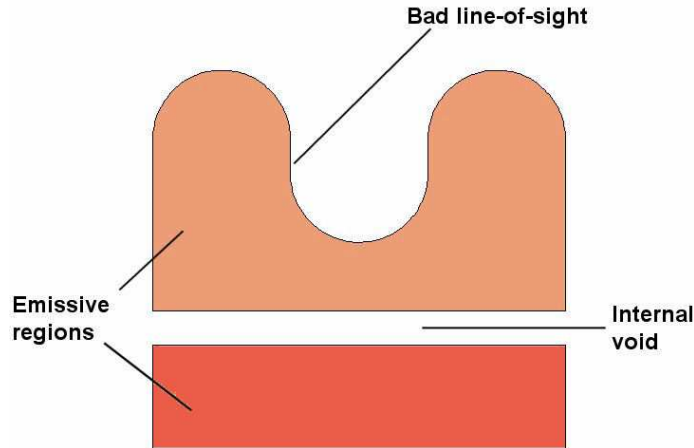

Figure 23: System that violates the assumptions of the **TDiff** radiation model.
- All radiating facets have a clear line-of-sight to infinity. In other words, the projection of a normal vector from any point on an emissive boundary intersects the solution volume boundary. Figure 23 illustrates a system where the conditions are violated.